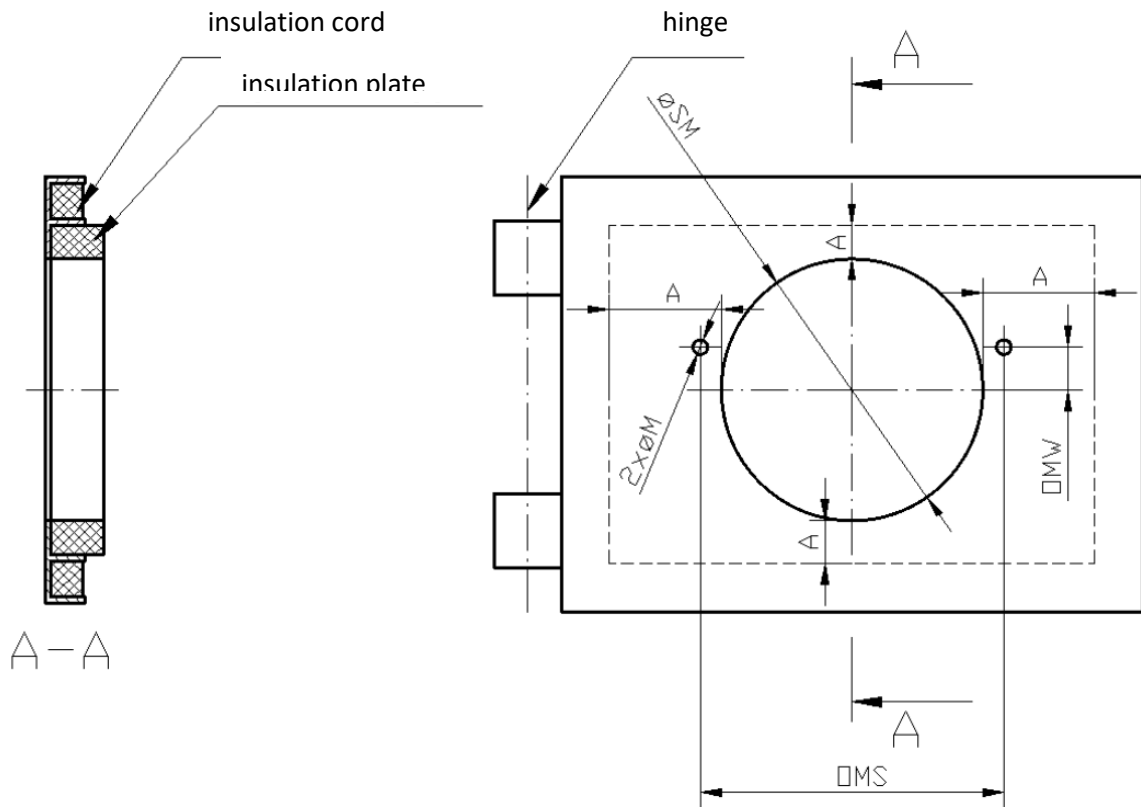

Fig. 3. Diagram for the location of the mounting holes for burner types: 4-16 kW, 5-20 kW, 6-26 kW, 8-36 kW, 10-50 kW.
2. The burner must be placed in the central heating boiler, or another heat exchanger and the dimensions shown in the following diagrams (Fig.3,4 5), and in the table must be observed. A hole for the outer tube must be made as well as holes for mounting the burner to the boiler door.